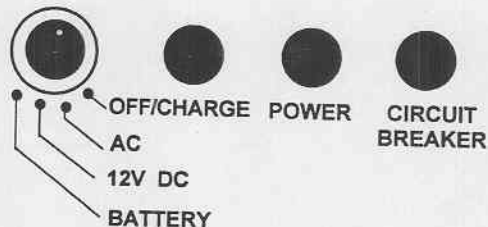

Figure 2-4. Circuit breaker.
d. "CIRCUIT BREAKER" (fig 2-4). The electrical circuit breaker protects the vacuum pump/motor from excessive current during incorrect or prolonged use. When activated, a small cylindrical plunger is released upward in the center of the circuit breaker. Push down to reset it.